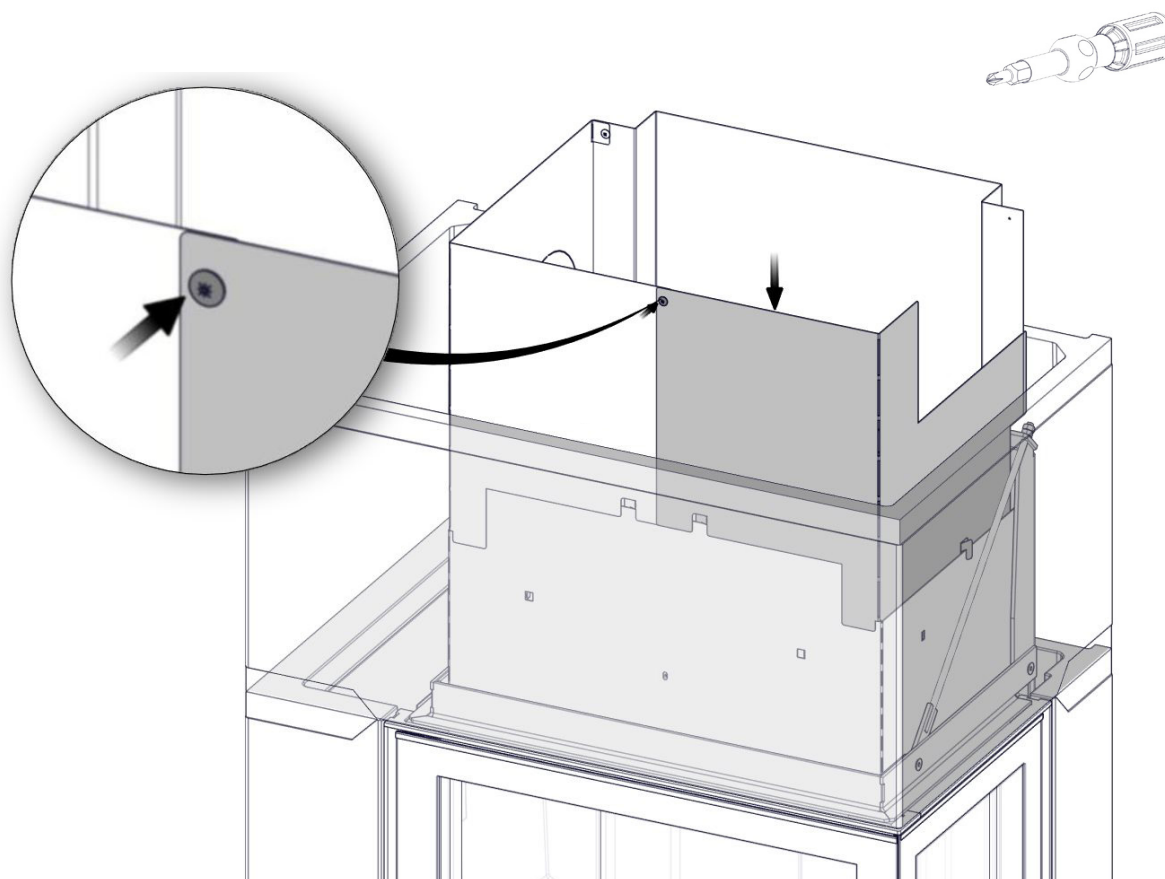

FIG 17
FIG 17 a
**FIG 17 b** Davos A High\_N-29A
**FIG 17 c** Davos A High\_N-29A
**FIG 17 d** Davos A High\_N-29A